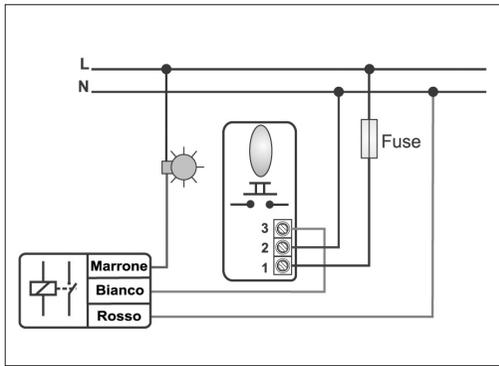
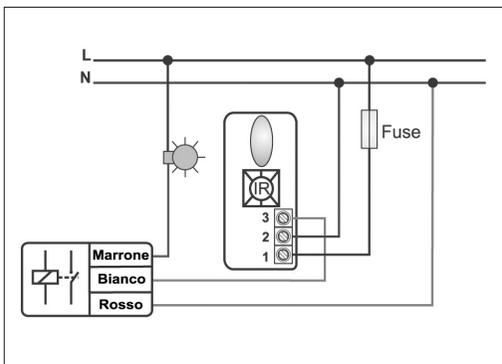

Fig. 2 - RL UN + RIP MO 34 S..
Fig. 3 - RL UN + RICE IR 34 S..
- Possibilità di funzionamento per mezzo di telecomando rispettando obbligatoriamente lo schema di Fig. 3.
- Can be controlled by remote control (see Fig. 3)
Connect RL UN (RELE' PP) in series with load or sensorial touch device RIPMO34S..., SHUI series. Keep housing away from direct sources of heat. The temperature should be 35°C, for every 5°C extra reduce power by 20%. Install respecting CEI after having switched off mains, and following carefully connection diagrams. Use cable of adequate size (not less than 1,5mm) and tighten terminals accurately. It is possible to control with infra red (Fig.2) or radio wave system (Fig.3).